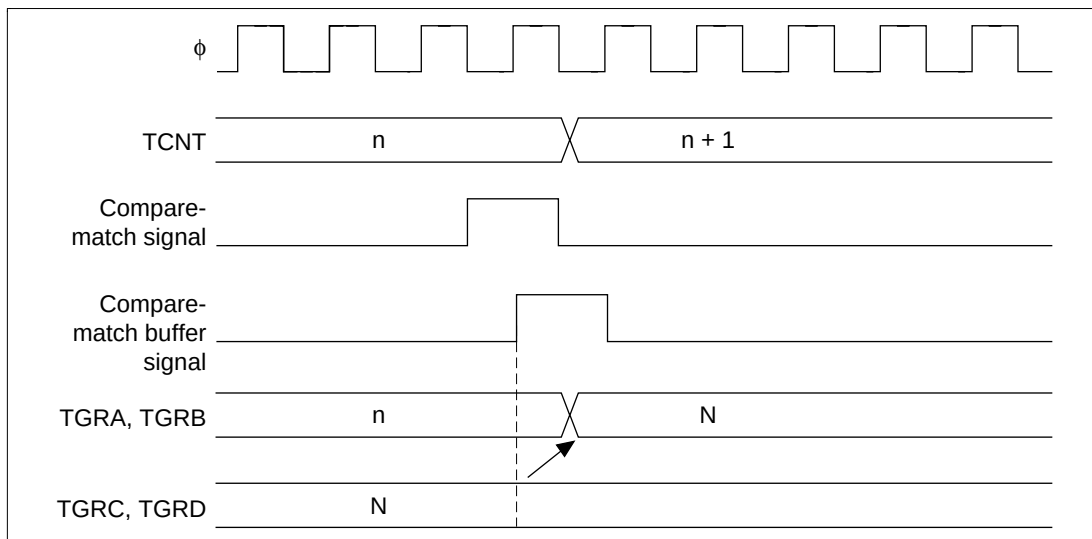
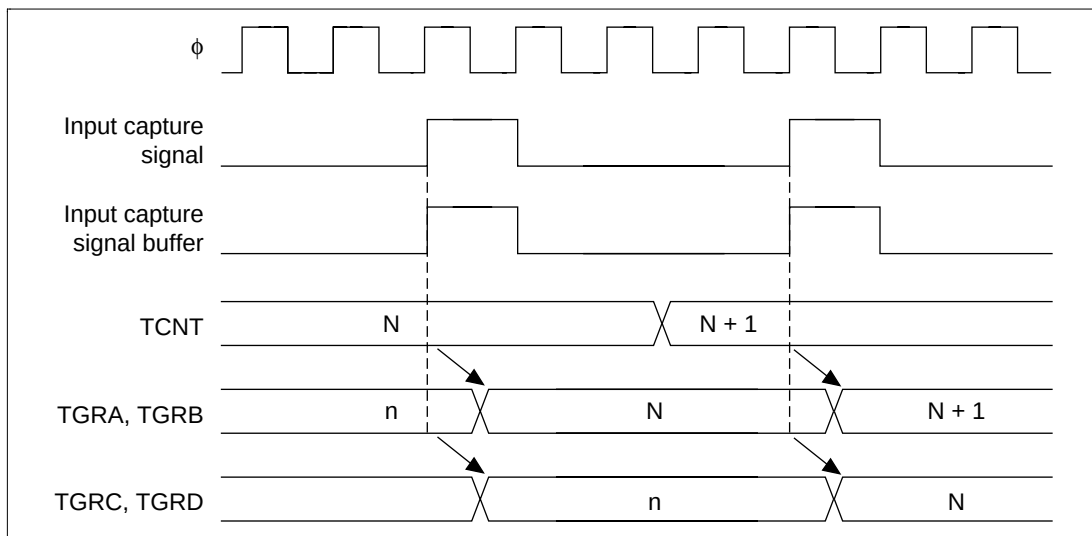

**Figure 12.67 Buffer Operation Timing (Compare-Match)**
**Figure 12.68 Buffer Operation Timing (Input Capture)**
**Buffer Operation Timing:** Compare-match buffer operation timing is shown in figure 12.67. Figure 12.68 shows input capture buffer operation timing.